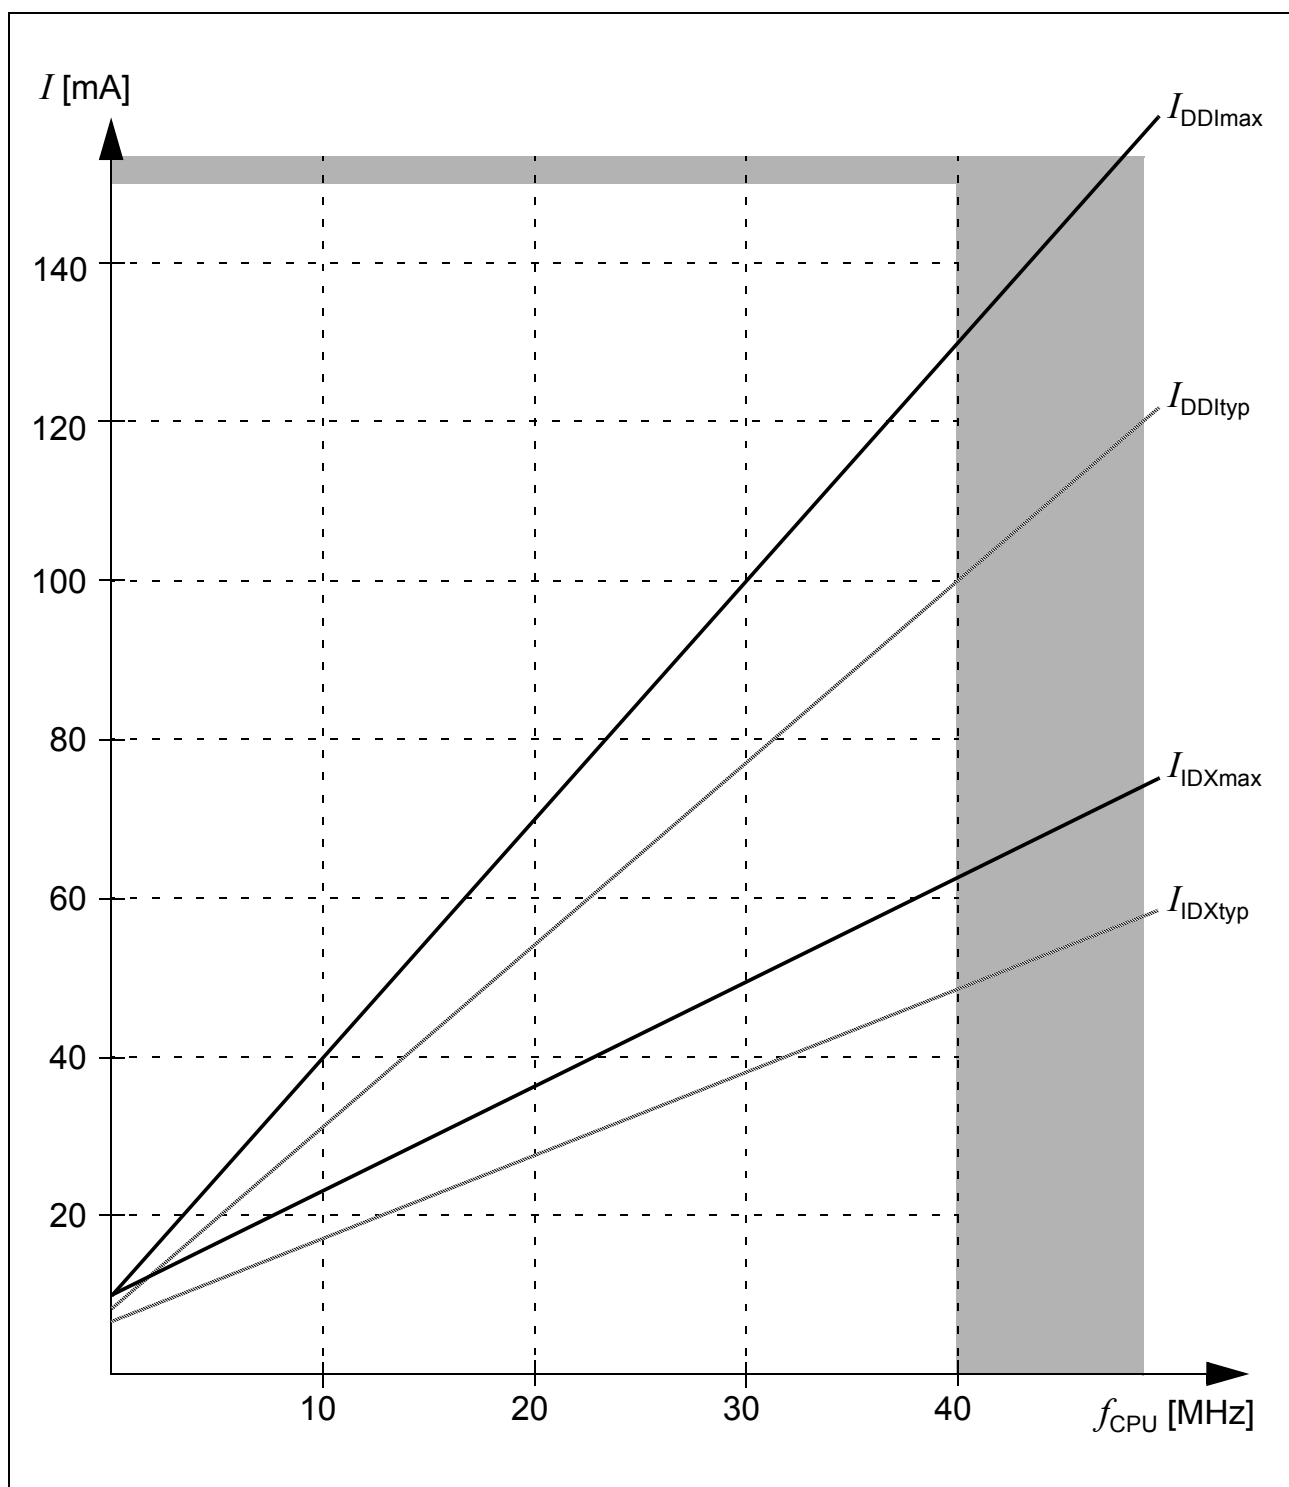

Figure 10 **Supply/Idle Current as a Function of Operating Frequency**
2) The supply current is a function of the operating frequency. This dependency is illustrated in Figure 10.